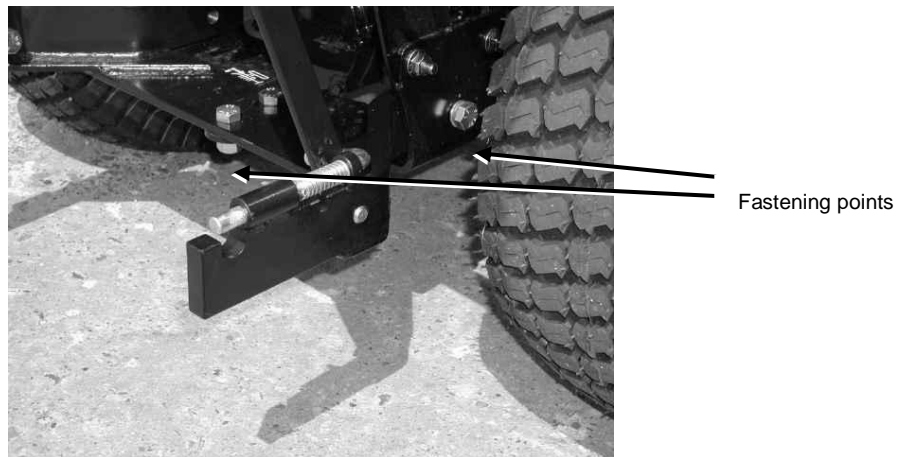

Fig. 11: Mounting the attachment rest
3. Mount the lower attachment rest to the tractor frame (see Fig. 11).